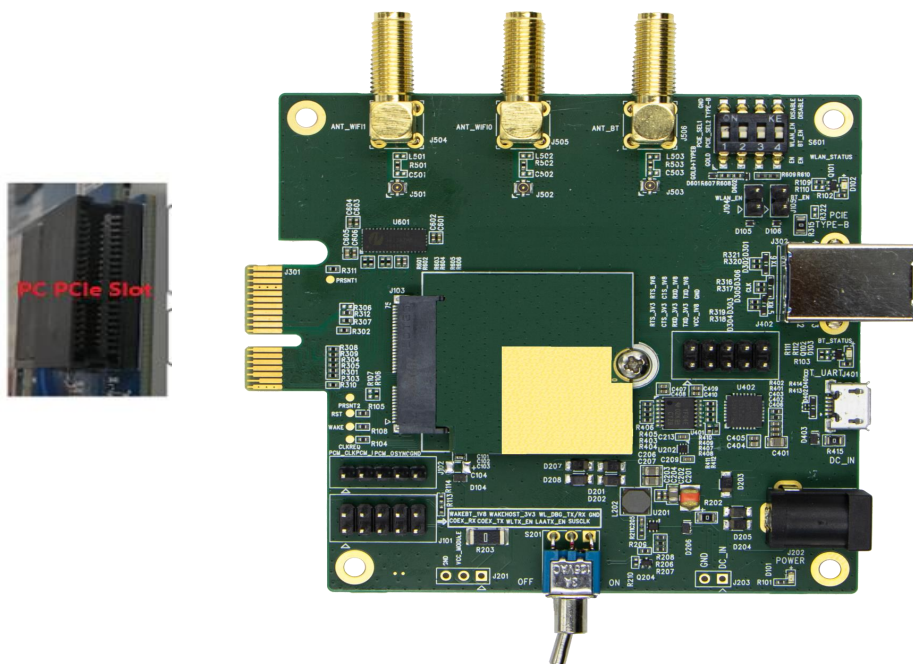

Figure 5: The Connection Between J301 and PC
- J301 is used to plug into the PCIe standard X1 slot of corresponding host such as PC. The **Figure 5** shows the connection between Wi-Fi-M.2 and PC: